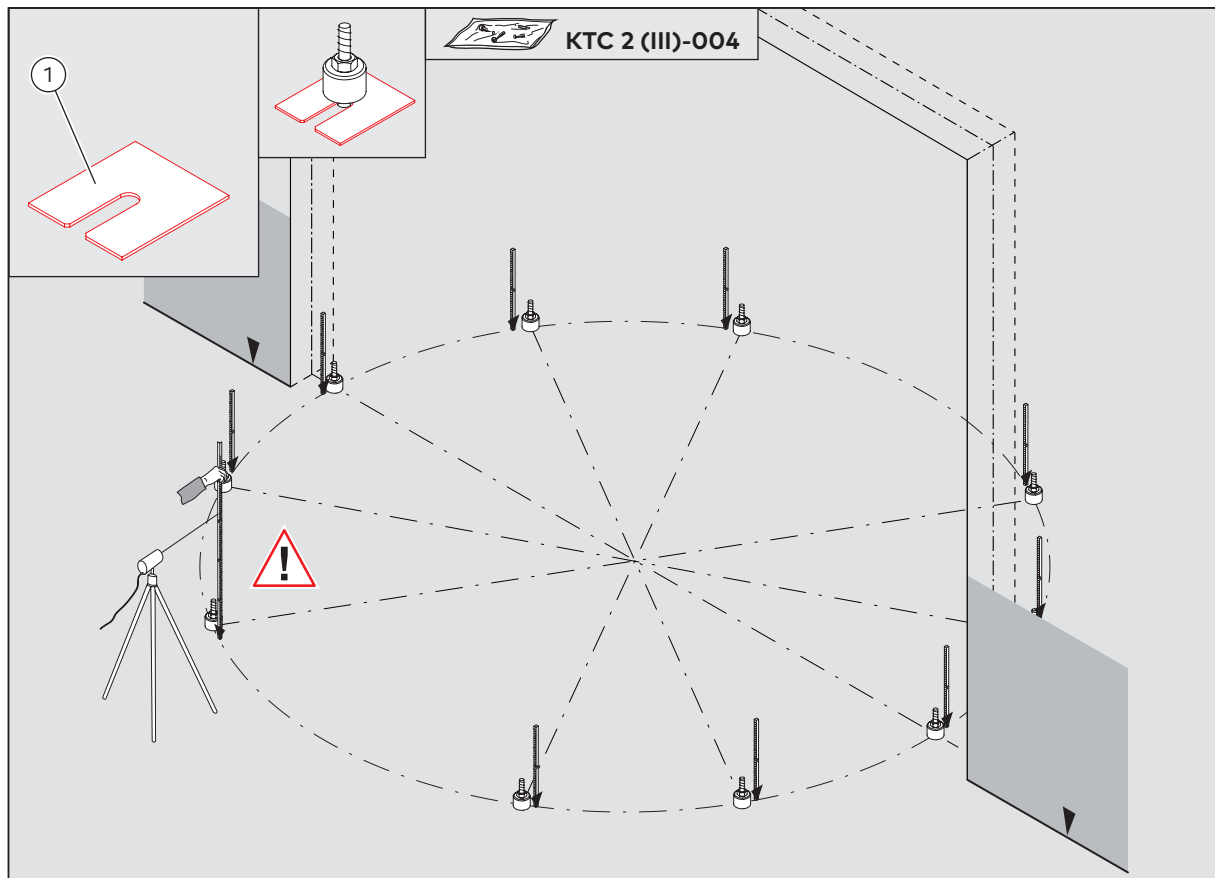

Fig. 26 Aligning the threaded rods with the bottom shims
7. Use the bottom shims (Fig. 26/1) to align the threaded rods.